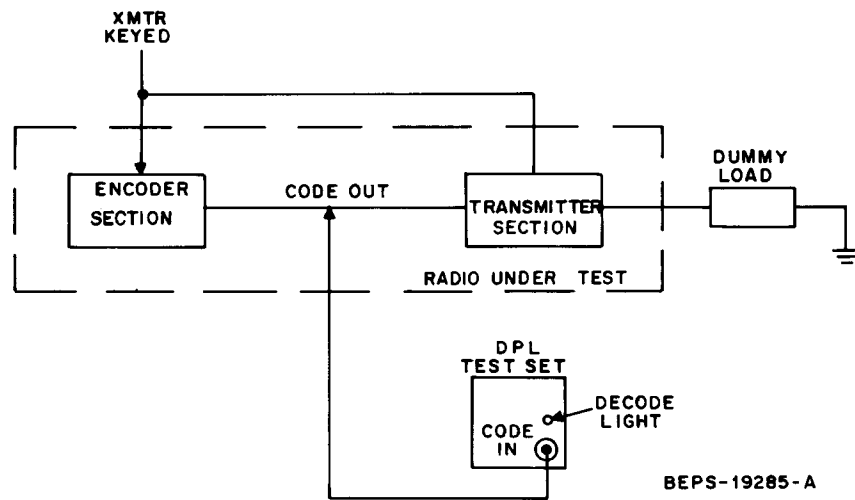

Figure 4. Encoder Test Set-Up
Step 1. Connect test equipment as shown in Figure 4. Refer to manual of equipment being serviced to locate encoder code out connection point.